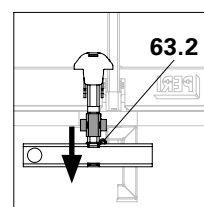

Fig. A13.14c
4. Push the sliding sleeve downwards. (Fig. A13.14c)